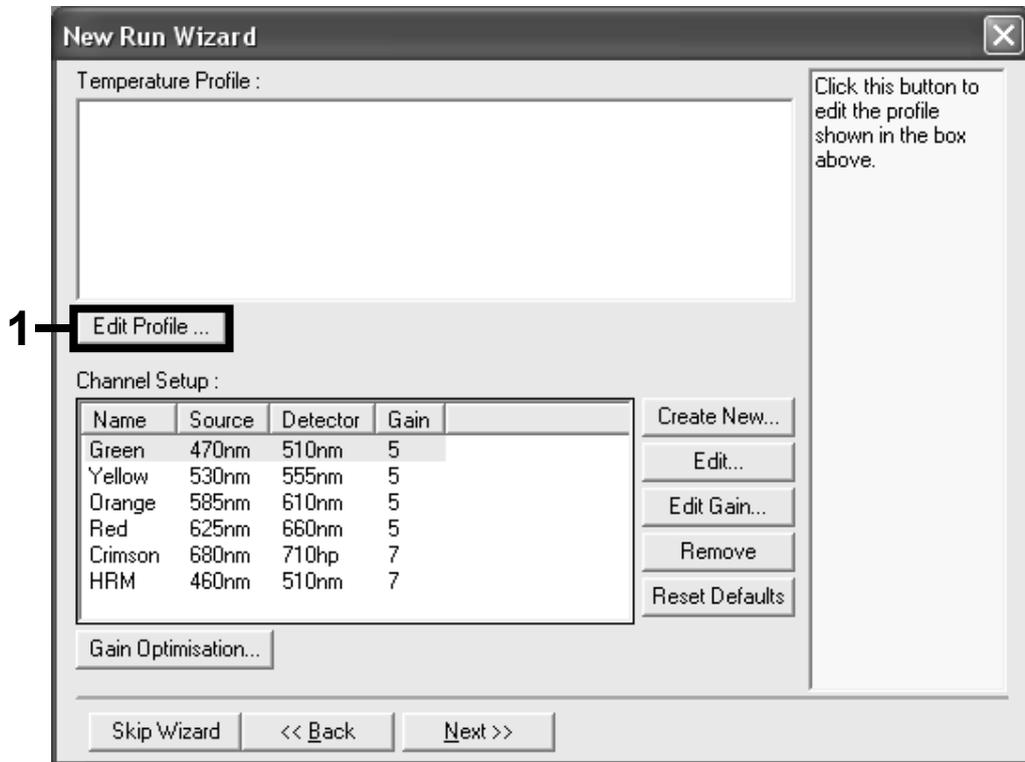

Figure 3. Editing the profile.
- Click the "Edit Profile" button in the next "New Run Wizard" dialog box (Figure 3), and program the temperature profile according to the information in the following steps.